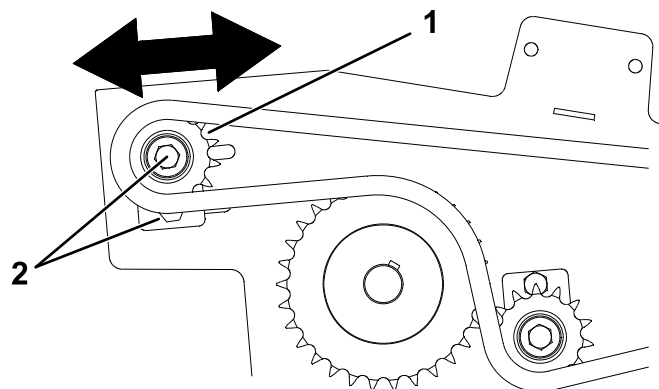

**Figure 16**
- Nut (2)
- Install the chain guards as shown in Figure 16.